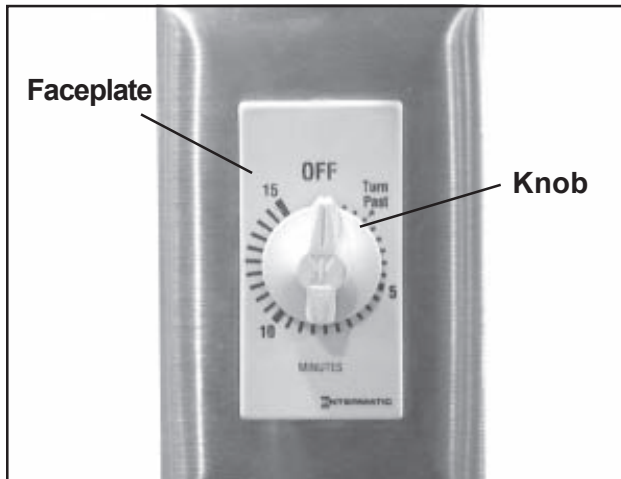

Figure 38. 15-minute Timer - Removing the Knob
4. By hand, pull the knob off the timer (Figure 38). If necessary, gently pry the knob off with a flat-blade screwdriver being careful not to damage the knob or the faceplate.
5. Align the flats on the knob shaft and the rear of the knob, and press the knob into place on the shaft (Figure 38).